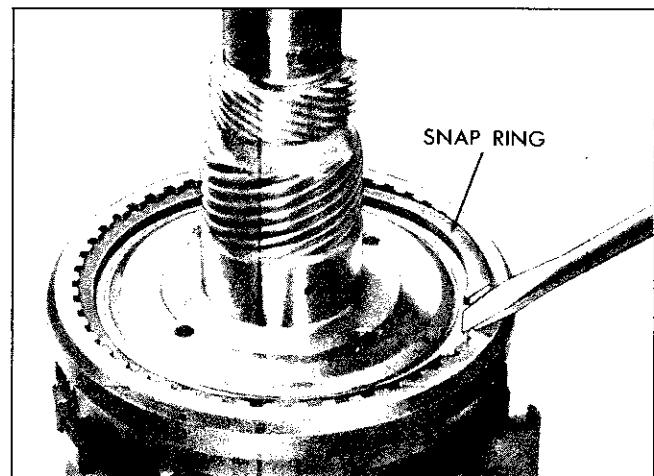

Fig. 7E-54 Removing Output Shaft to Carrier Snap Ring
14. If necessary, remove rear internal gear to mainshaft snap ring to remove mainshaft (Fig. 7E-58).